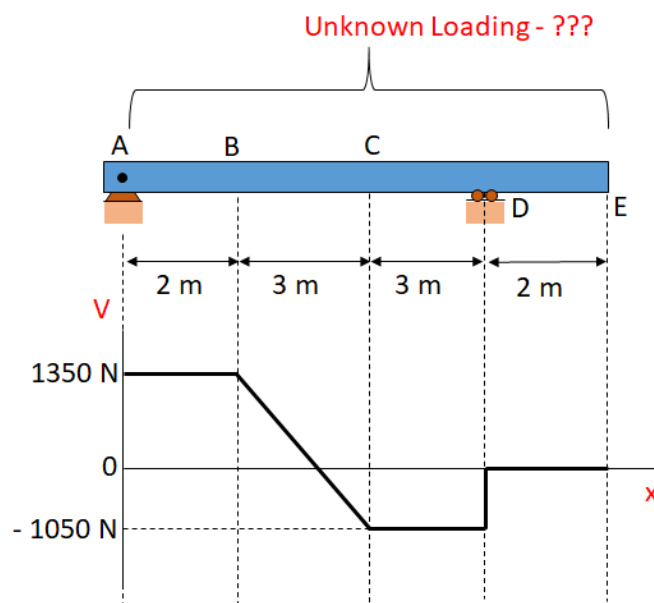

Fig. 2(b)
**(b)** The shear-force diagram for the beam with unknown loading is shown in Fig. 2(b). Assuming that there are no couples acting on the beam and also assuming that the unknown loading is vertical, (i) Calculate the reactions at the supports (ii) draw the corresponding bending moment diagram (iii) compute the maximum bending moment and its location on the beam. [8 marks]